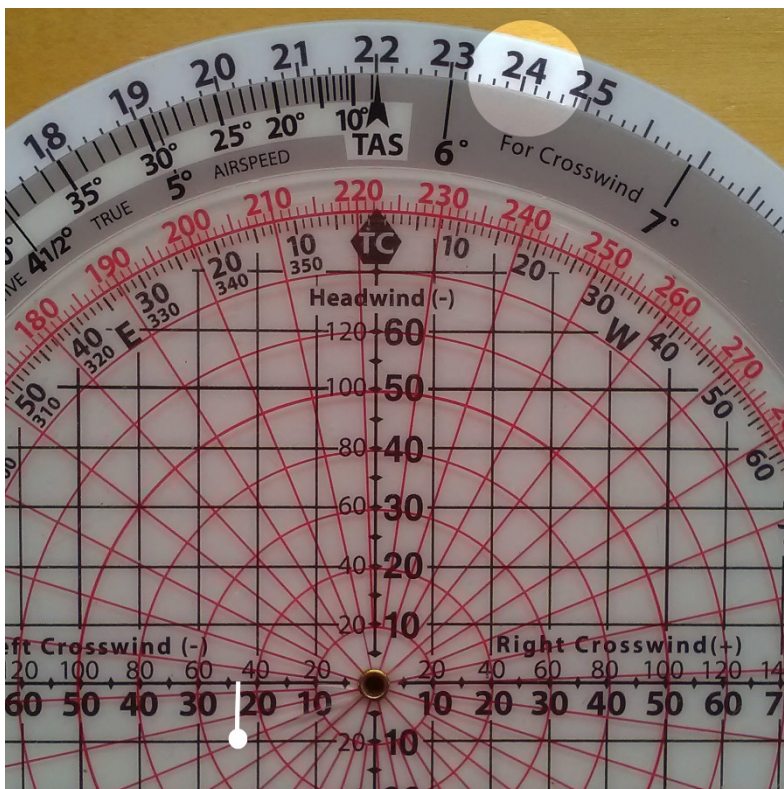

Figure 26.
2. Place magnetic heading (230) above variation (8) on + side.
5. Rotate wind disc 7° (WCA) to the left and note new crosswind component of 24 knots (see Figure 26).